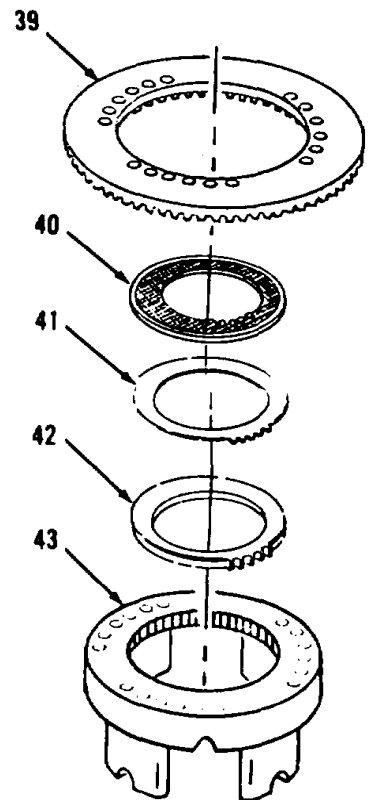

Figure 14-133.
21. Remove ring gear (39), seven discs (40), eight discs (41) and disc (42) from housing (43, Figure 14-133).